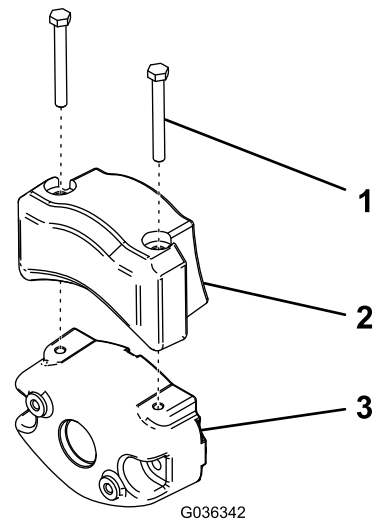

Figure 50
2. Secure the electrical counterweight to the existing counterweight with 2 capscrews as shown in Figure 50.